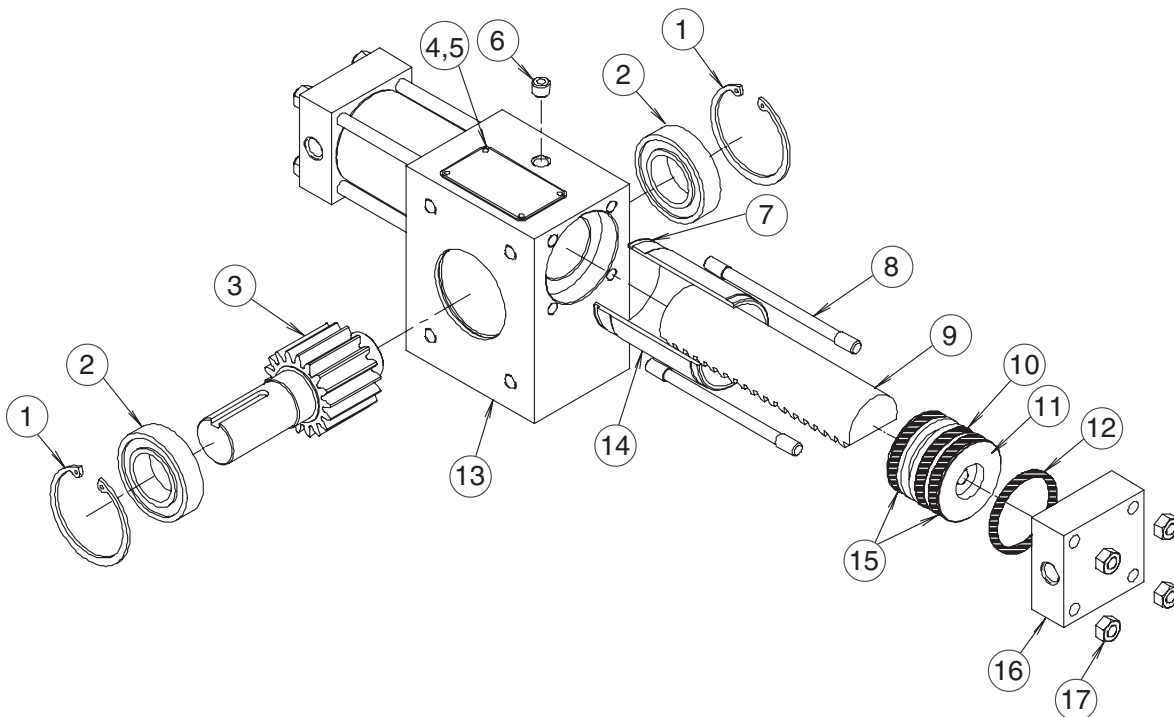

Figure 1
### Inspection & Replacement (See Figure 1)
**Parts List (Figure 1 & 2)**